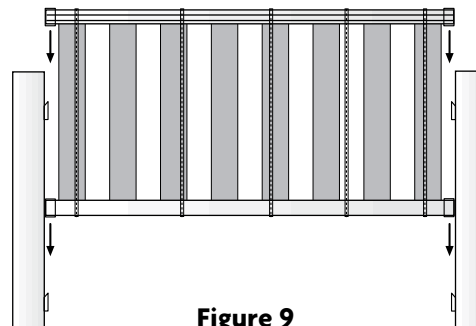

Figure 9
13. With the railing directly above the four dovetail pieces, slowly lower the rail section to simultaneously engage the brackets to the mounted dovetails (Figure 9).